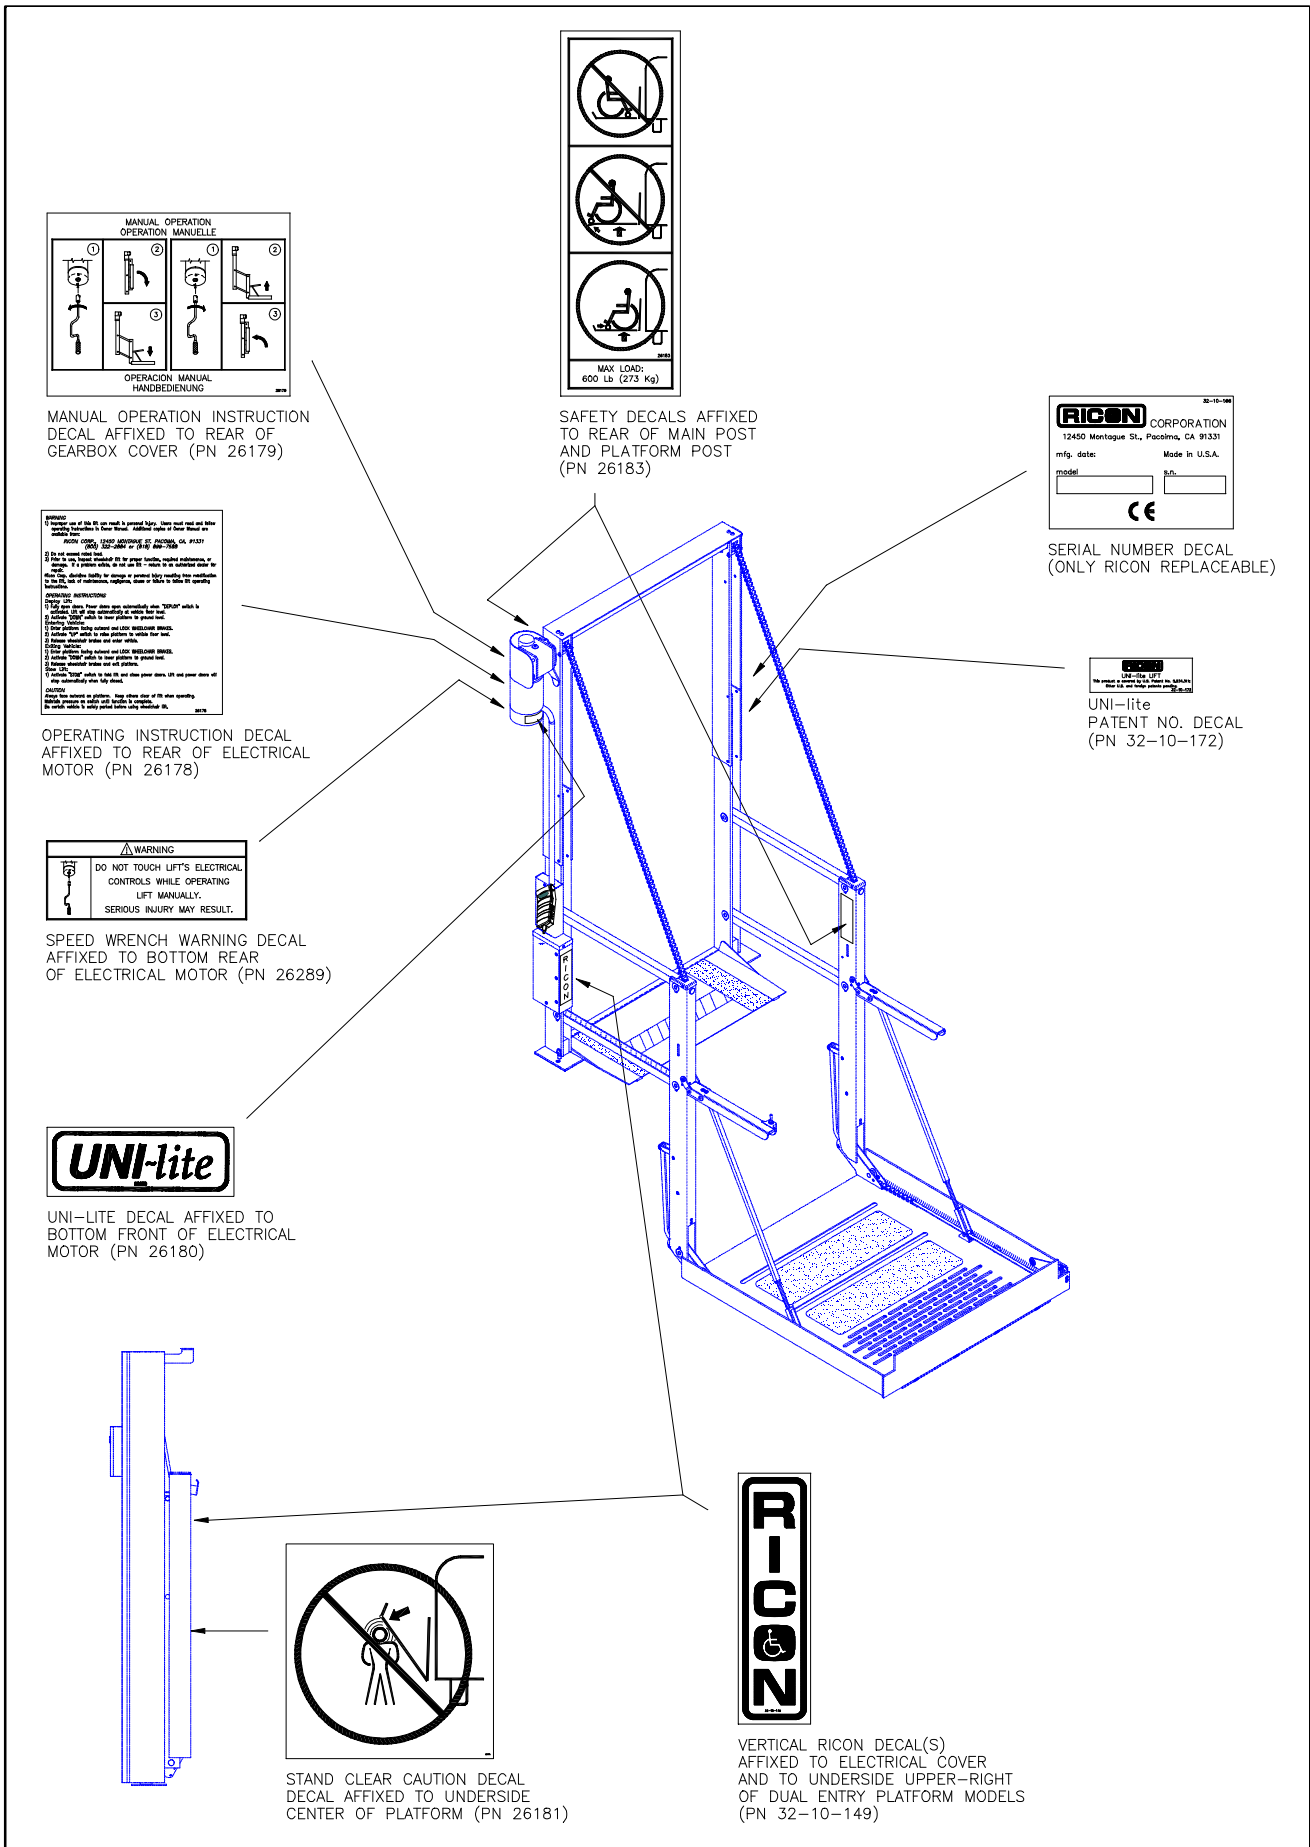

FIGURE 2-19: DECAL LOCATION
- Refer to **Figure 2-19** on following page and ensure that all decals are properly located and affixed to the UNI-lite.